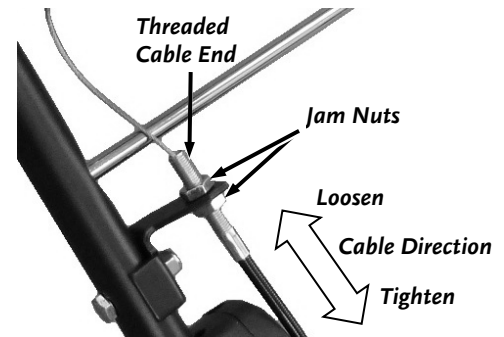

Figure 40
2. Adjust the Jam Nuts towards the end of the Cable to tighten the Belt tension or towards the sheathing of the Cable to loosen the tension of the Belt (**Figure 40**).